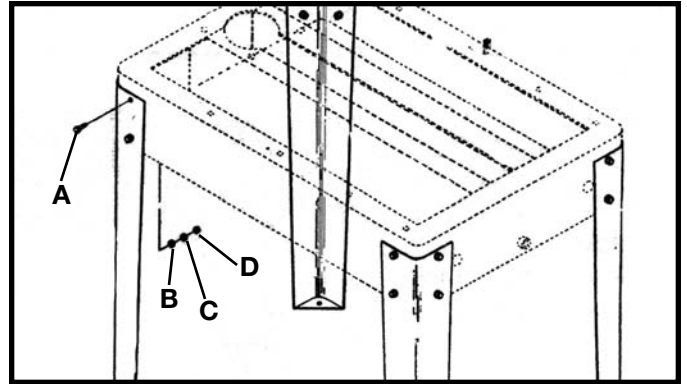
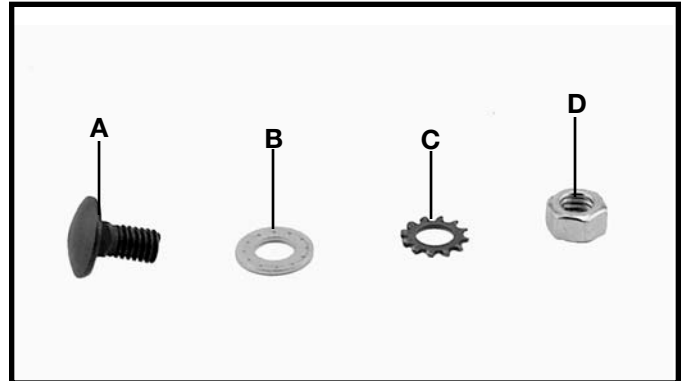

Fig. 4A
Fig. 4B
Carefully support the machine to the rear and brace the frame so the machine is balanced. Attach the four steel legs to each end of the base using sixteen 5/16-18x5/8" carriage head screws (A) Fig. 4A and Fig. 4B, 5/16" flat washers (B), 5/16" lockwashers (C) and 5/16" hex nuts (D). Return saw to upright position.